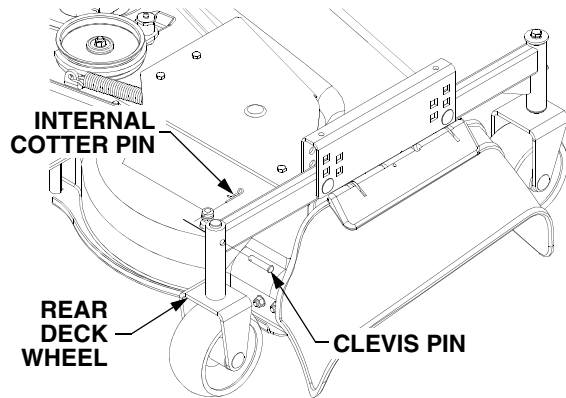

Figure 65
- Remove the internal cotter pins and clevis pins to allow the rear deck wheels to pivot. See Figure 65.
- Remove the internal cotter pins and clevis pins to allow the rear deck wheels to pivot. Refer to Figure 65.